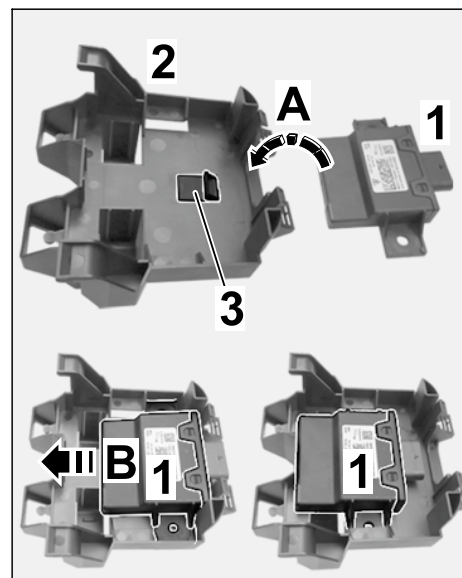

Figure 13
- 2.1.2 Insert the engine noise control unit at the underside in the control unit holder (⇒ *Figure 13-A-*).
- 2.1.3 Push the engine noise control unit in the holder to the opposite side of the plug connection (⇒ *Figure 13-B-*), until the control unit is engaged in the holder.